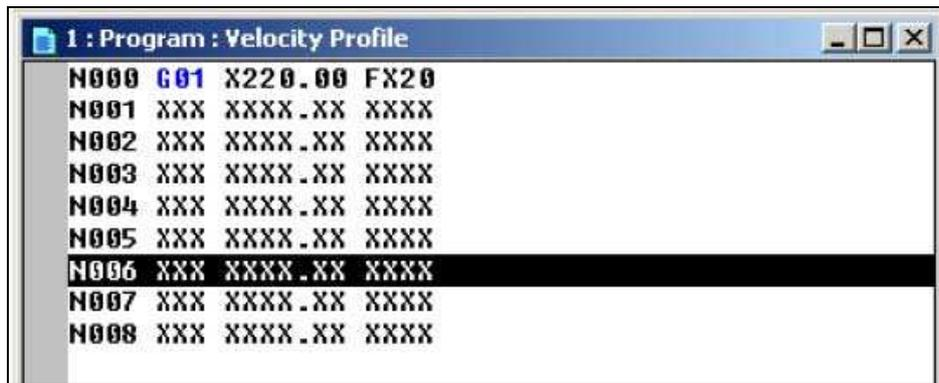

Fig. 3.4. Program execution steps
- Go through the lines of the program step by step (Fig. 3.4), observing the different velocities (20, 50, 70 and 100% of the maximal speed).